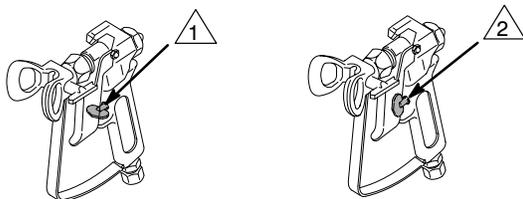

Fig. 3
2. **Close the pressure drain valve (50).**
5. **Lower the pressure setting** by turning the pressure adjusting knob (B) all the way counterclockwise.
6. **Disengage the gun safety latch.** See Fig. 3.